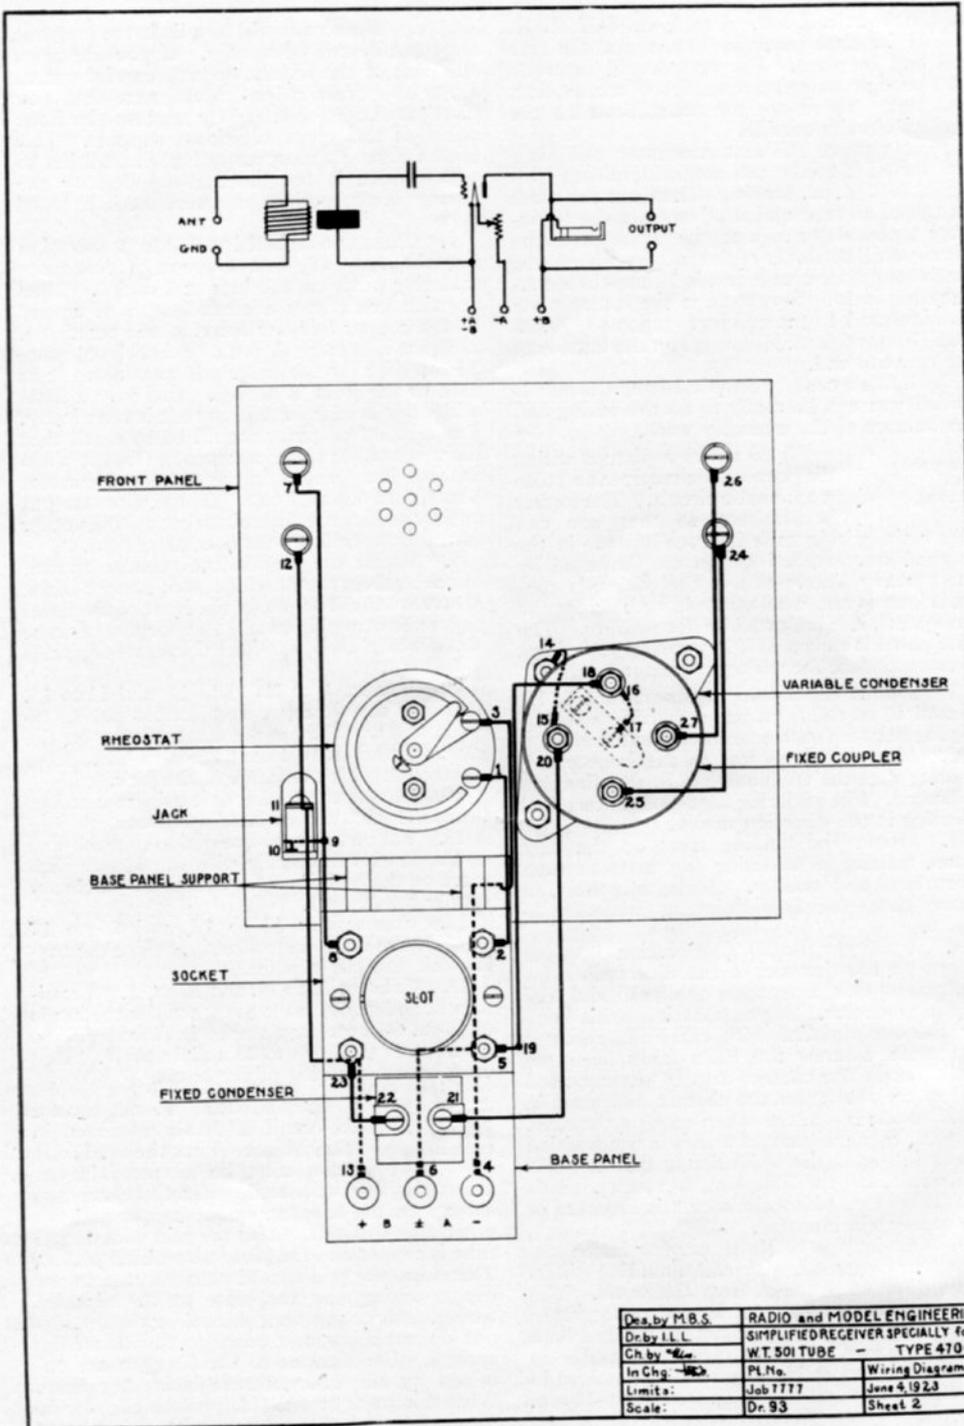

Fig. 6. Schematic and picture wiring diagrams of the receiving set. Note that there are only twenty-seven soldered connections
You will notice that the picture wiring diagram in Fig. 6 calls for only 27 connections, a number much lower than will be found in almost any other set. A particularly commendable feature in the outfit is that there are no switch points to solder.
Next remove the rear condenser end plate and fasten it to the coil mounting pillars with $\frac{1}{2}$ -in. 6-32 R. H. screws. Then put the plate on the condenser again and connect the secondary terminals to lugs on the terminals of the rotary and stationary plates. In Fig. 6 the stationary plate connection is 14 and the secondary lug is 15. Seventeen is the rotary plate terminal and 16 the coil lug. Then 18, 20, 25 and 27 represent the four lugs on the outside of the rear coil end.
Fig. 6 shows a picture wiring diagram of the receiver and also a schematic circuit. The former is furnished so that you can follow the wiring as it is actually done in the finished set. Soldering lugs are indicated by short heavy lines. Where the wiring is concealed, as is the case where it runs under the base panel, it is indicated by dotted lines. The base panel is shown as if it were dropped down so as to disclose the wiring in greater detail.
3. Mount the binding posts on the base panel, putting a soldering lug between each screw head and washer. Make sure that, in every case, the lugs point as indicated in Fig. 6.
4. A Sleeper Radio Corporation knob is shown on the rheostat in the illustrations for the reason that it matches the knob and dial on the condenser. If you substitute this knob for the one supplied with the Fada rheostat you must unscrew the Fada knob from the shaft, fasten the contact arm to the threaded end of the shaft, put the contact and shaft in position and fasten the other knob on the shaft so that, when the contact arm is in the position shown in Fig. 6, the white line of the knob will coincide with the line on the panel. This should be done before the socket is mounted or the socket will interfere.
5. One-inch 6-32 R. H. screws fasten the socket to the panel, with coil mounting pillars to hold the socket back from the panel. You can see this arrangement in the photographs and in Fig. 6, where the pillars are marked Base Panel Support. If you have any trouble in getting the screws into the bushings molded in the socket base, clean them out with a 6-32 tap.